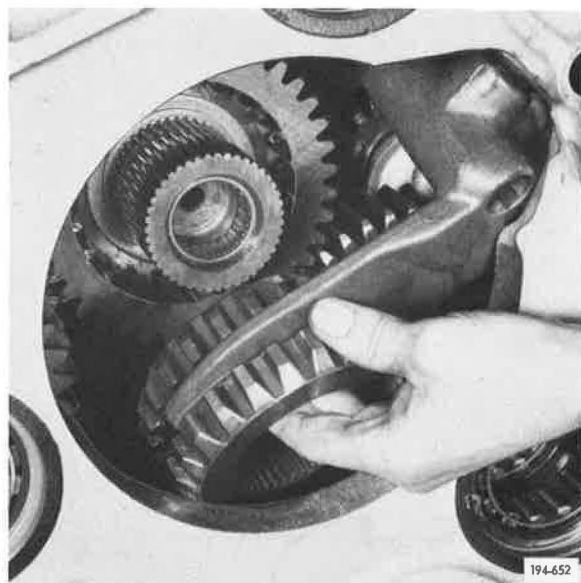

Figure 340. Installing Sliding Clutch and Shift Fork
28. Install Lo/Hi range sliding clutch and its shift fork as an assembly. See Figure 340.